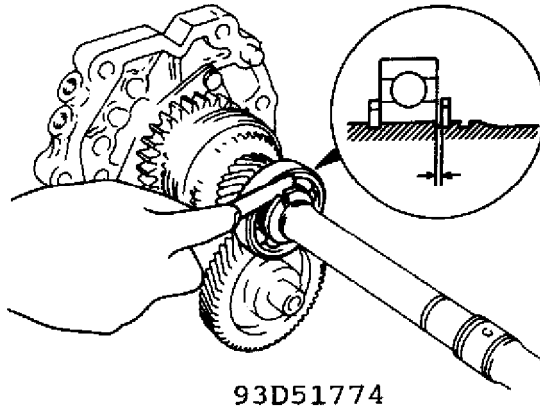

Fig. 5: Measuring Clearance Between "C" Washer & Rear Bearing (M-Type)
3. Measure the clearance between the "C" washers and mainshaft rear bearing. See Fig. 5. If the clearance is not as specified, select the proper "C" washers.